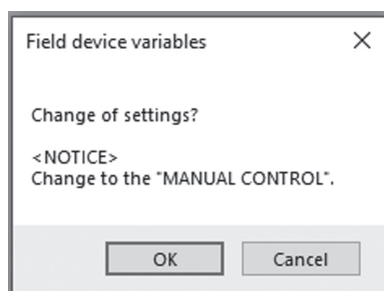

Fig.31
- ⑤ In the temperature "Temperature" section, the temperature unit and temperature damping can be set.
- ⑥ After all settings are complete, click the "OK" button to display a message box (Fig. 31).